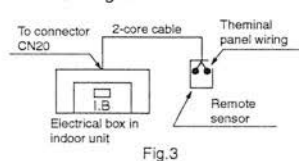

Fig.3
• The wiring connection of the indoor unit's electrical box and remote sensor is as shown in Fig.3. There are three methods of connecting the 2-core cable to the electrical box.